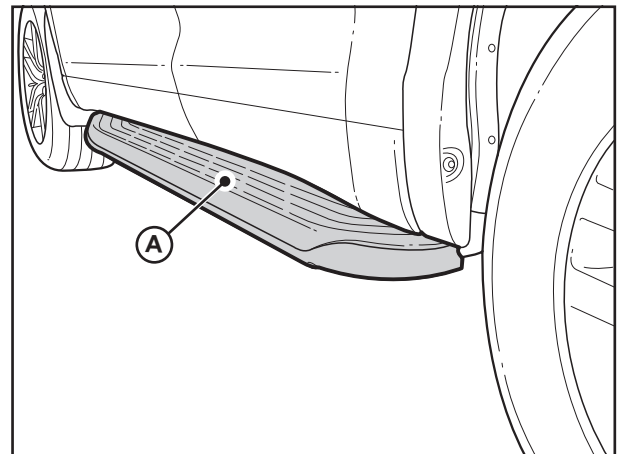

FIGURE 20
- Adjust step to ensure that a minimum gap condition of 10mm is maintained between the step and the doors. Ensure the step is level as shown in Figure 20.